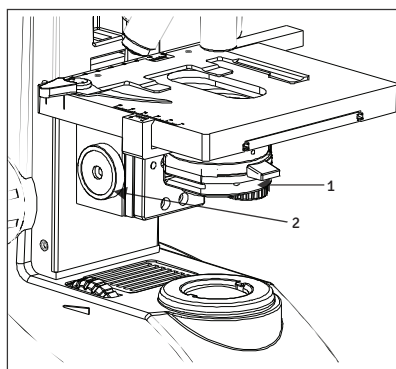

Fig. 30
1. Rotate the condenser height adjustment knob (2) to move the condenser to the highest or desired position (fig. 30).
2. The aperture iris diaphragm ring (1) has an objective Magnification scale (4x, 10x, 40x, 100x). Slide the diaphragm lever left right to achieve the desired illumination level (fig.30).